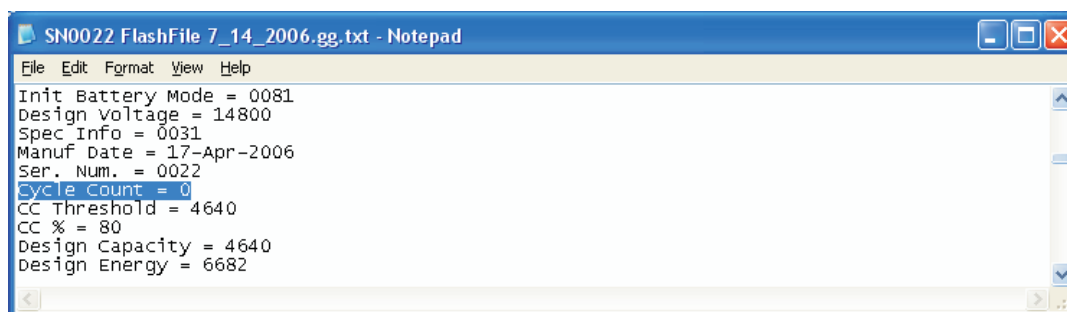

Figure 17. Cycle Count Modification in GG File Using Notepad
4. Open the saved GG file from step 3 in a text editor such as Notepad, and change the value of Update Status from 06 to 02, which indicates that the parameters are learned but the Impedance Track feature is disabled (as should be the case for a new pack prior to calibration). Also, reset the *Cycle Count* field to 0 as shown in Figure 17.